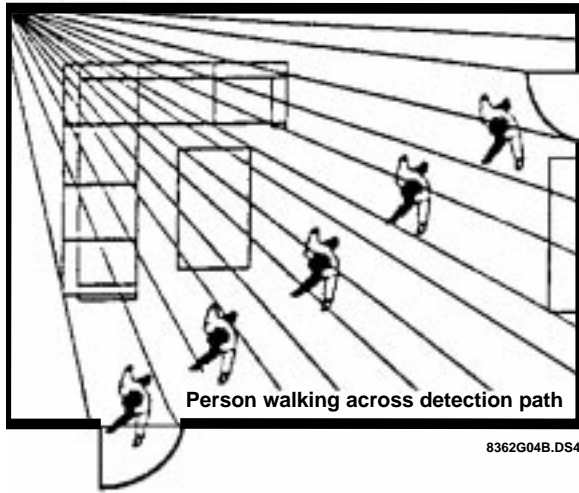

Figure 1. Overhead (Bird's Eye View) Detection Path
- Position the sensor to protect an area where an intruder would be most likely to walk across the detection pattern (see Figure 1).